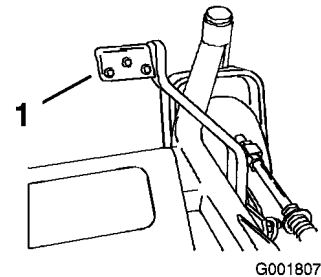

Figure 18
2. Press on the lift assist lever while pulling up on the height-of-cut lever (Figure 18).